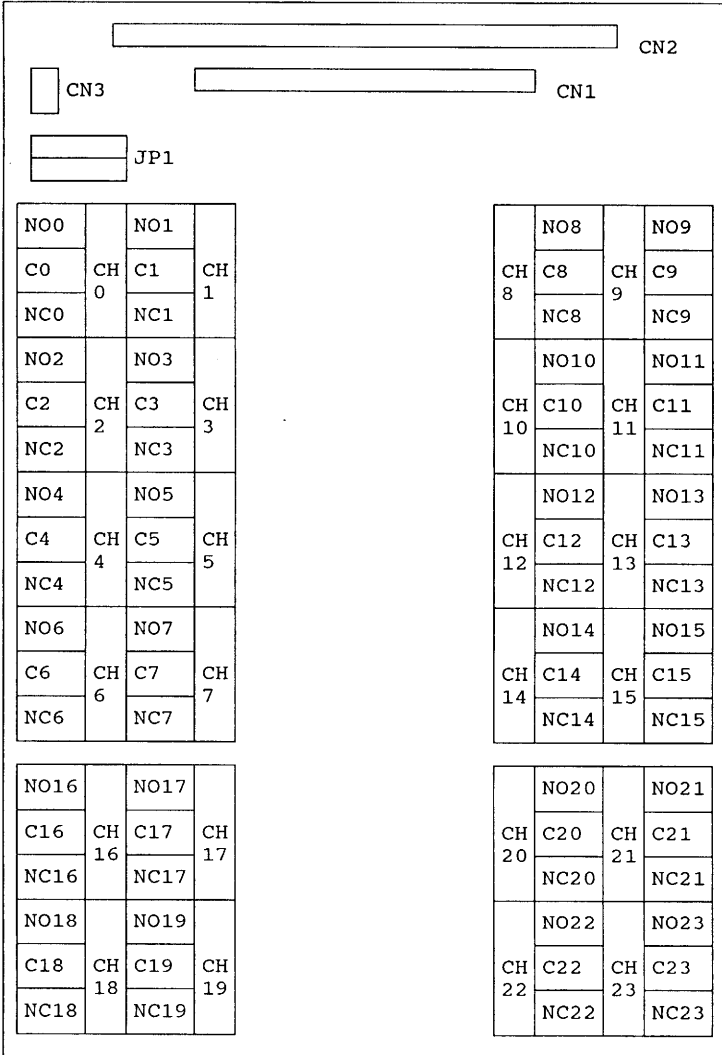

Figure 1. PCB Layout
Locations of all jumpers, connectors and wiring blocks are shown in Figure 1 on page 7.
**JP1:** Jumper JP1 is used for selecting the +5 and +12 V power source. An external 9-12 VDC supply **must** be used for operation with the 50-pin opto-22 connector. See Figure 1 on page 7 for jumper locations.
Connections to the relay contacts may be made as shown in the diagram below. Location and pin assignments of the output wiring terminal blocks are detailed in Figure 1 on page 7 of this manual.